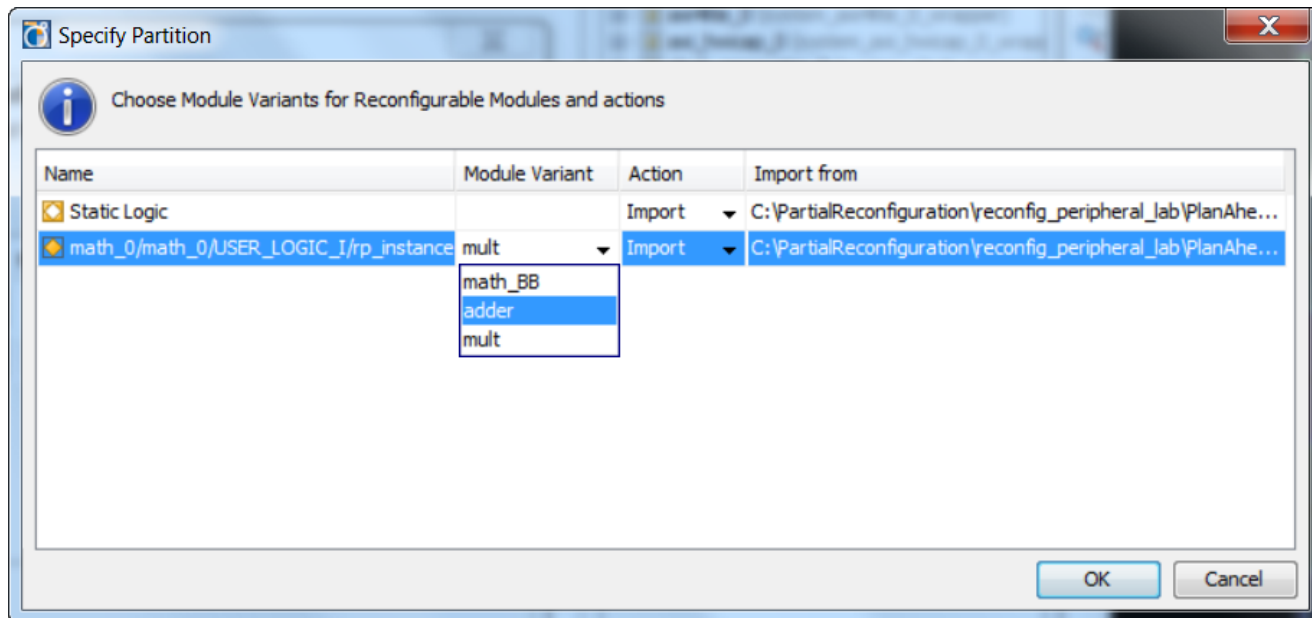

Figure 26: Selecting adder Module Variant
- For the `rp_instance` row, click the Module Variant column drop-down arrow, and select **adder** as the variant to be implemented, as shown in Figure 26.